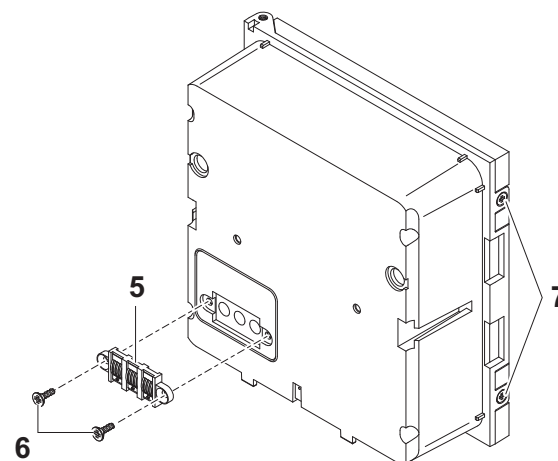

Fig. 3-5 Mounting the contact base (variant 1)
| 4 | Attach the contact base (pos. 5 in Fig. 3-5) on the front MIQ module with the two plastic tapping screws (pos. 6). |
| 5 | On the front MIQ module, remove the two countersunk screws (pos. 7 in Fig. 3-5) and swing open the module lid. |